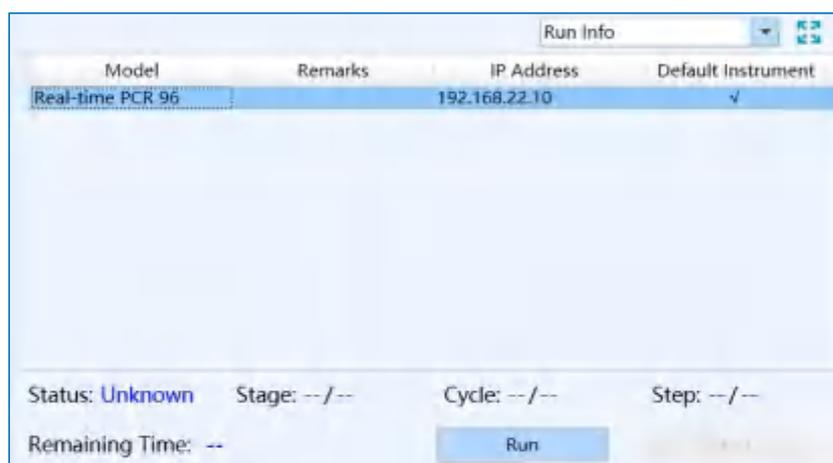

Figure D-6.4. Run Monitoring interface - Run Info function module
4. **Run Info:** display the current instrument information and the real-time running status, such as the *Stage*, *Step*, *Cycle* and *Remaining Time* of the current experiment, as shown in figure D-6.4.